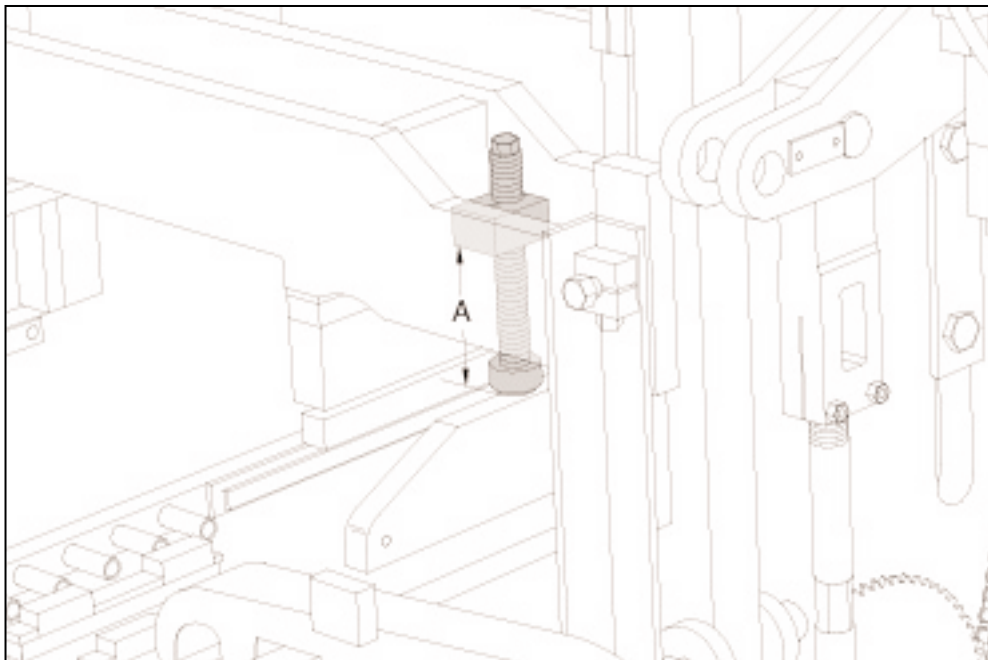

Figure 4.29 SHOCK ABSORBERS ADJUSTMENT.
4.2.7 Adjust the shock absorbers to a dimension **7 7/16" [189mm]** (represented by "A" in figure 4.29) from the bottom of the clamp blocks to the bottom of the rubber pads.